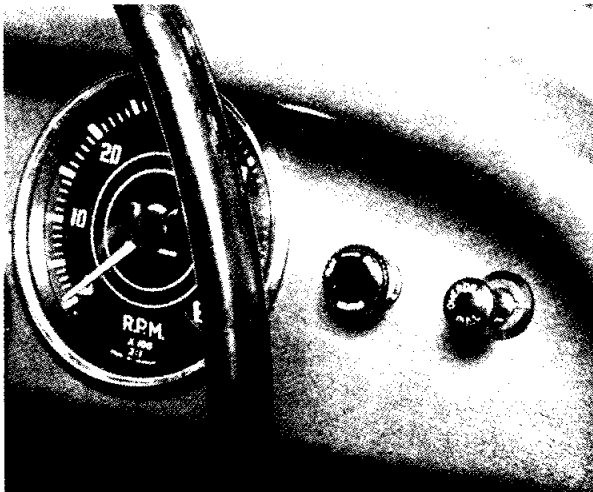

Fig. 11 Showing location of Heater Control Switch.
9. At this point it is advisable to install the electrical control switch (Fig. 11), a hole for which is already provided in the dashboard. For the sake of appearance the hole in the dashboard is covered by trim material until it is required. This covering of trim can easily be cut away with a small sharp blade, after location of the hole with the tip of a finger, its position is approximately 4" from the steering end of the dashboard at a point $2\frac{3}{8}$ " from the lower edge of the dash panel.